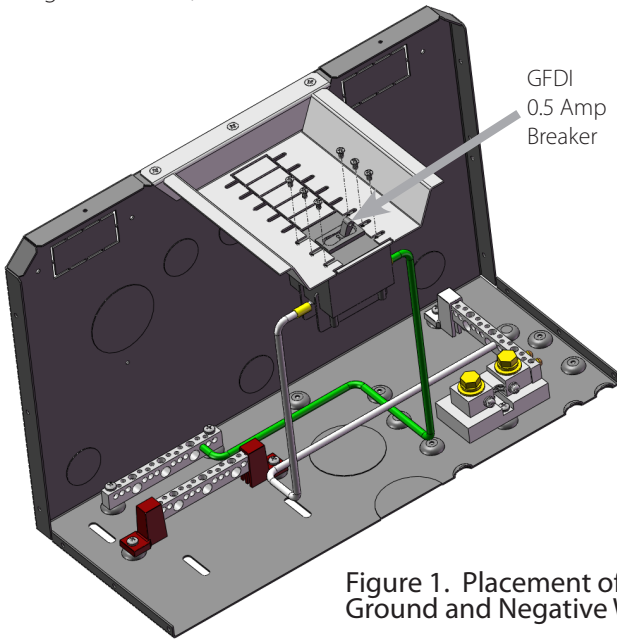

Figure 1. Placement of Ground and Negative Wires
- The negative wire goes to the bottom of the same breaker.(See Figures 1 and 2.)